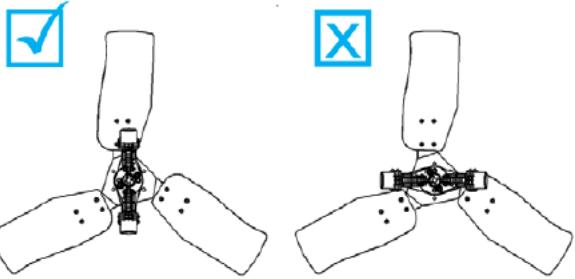

fig.19
2. Unscrew the (2) M8 hexagonal socket head cap screws and pull out the whole centrifugal system through the shutter blades.
4. Take care to assemble the centrifugal system as shown in fig.19.